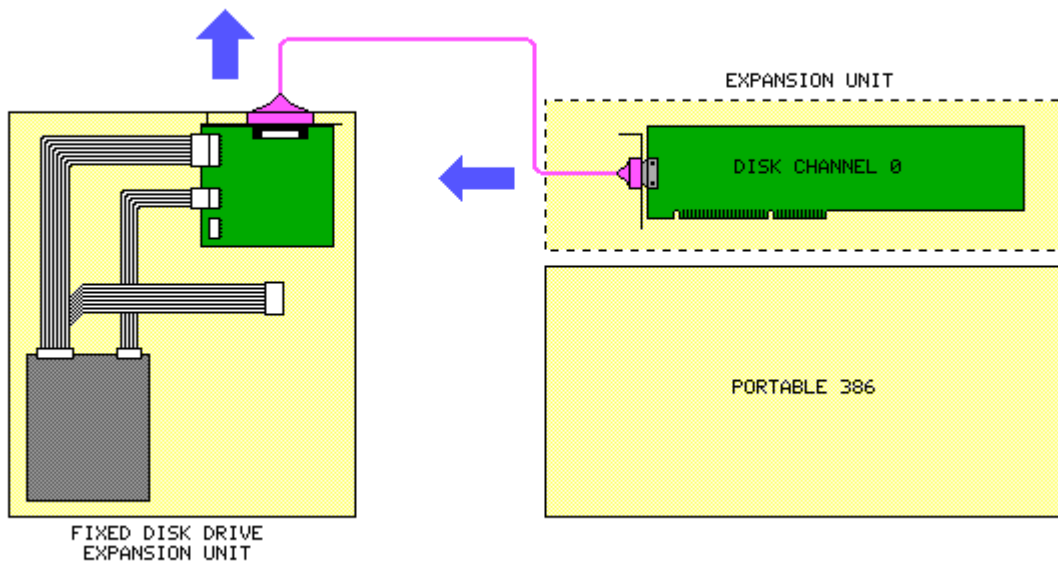

Figure 8-107. Removing the Signal Cables from the External Interface Adapter Board
2. Disconnect the 20 pin and 34 pin signal cables from the external interface adapter board in the fixed disk drive expansion unit (Figure 8-107).